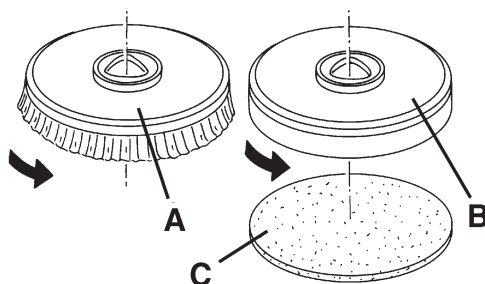

Figure 2
1. According to the kind of cleaning to be performed, the machine can be equipped either with the brush (A, Fig. 2) or the pad-holder (B) with pad (C) together with the appropriate deck.
2. Insert the ignition key (80) and turn it to "I".
3. If equipped, turn the speed adjuster (84) to idle by turning it counter-clockwise.
4. Place the brush (A) or the pad-holder (B) under the deck (18).
5. Lower the deck on the brush by pressing the pedal (11).
6. Turn the ignition key (80) to "I".
7. Press the One-Touch push-button (71).
8. Press one of the push-buttons (83) to engage the brush/pad-holder, then release it. If necessary, repeat the procedure until the brush is engaged.